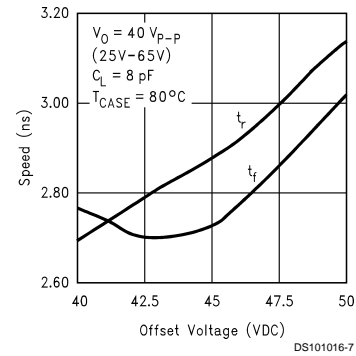

FIGURE 7. Speed vs Offset
*Figure 7* shows the variation in rise and fall times when the output offset of the device is varied from 40 to 50 VDC. The rise and fall times show about the same overall variation. The slightly faster fall time is fastest near the center point of 45V, making this the optimum operating point since there is little increase in the rise time.